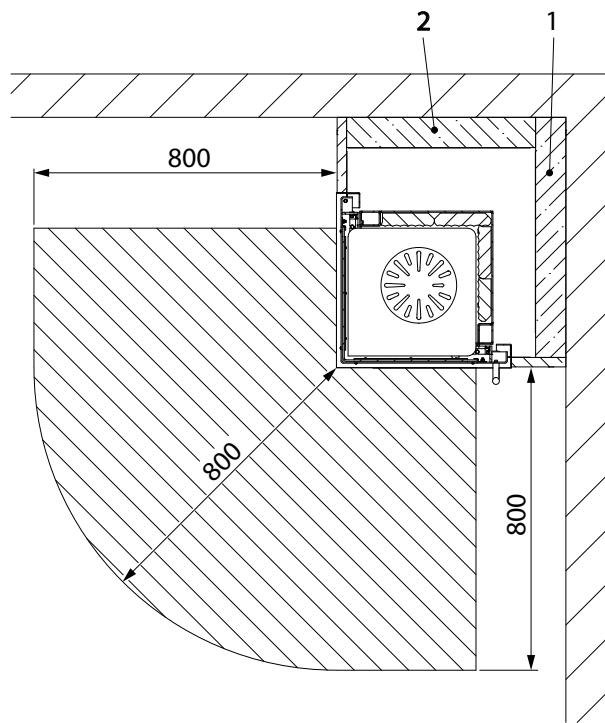
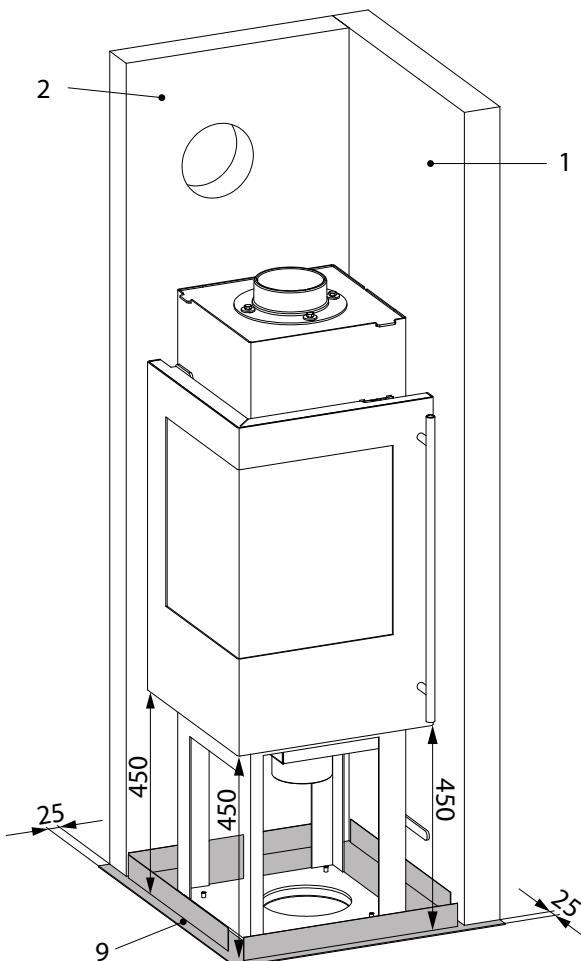

Fig.3
Fig.4
- Determine the installation location. The stove can be installed flush with the wall on 2 sides. There must be no objects made of combustible materials within a distance of 80 cm of the stove's radiation area, measured from the combustion chamber's inspection glass, nor may any be placed within this area subsequently see Fig.3).
- Position the bottom plate (9, Fig.4) at the installation location in such a way that the two 80mm thick insulation panels 1+2 face the mounting walls (see Fig.3).
- Align the stove such that the distance between the bottom plate and the bottom edge of the combustion chamber door is 450mm all around (see Fig.4).
- Set up insulation boards 1+2 and, if necessary, fix them in place on the mounting walls using a few adhesive joints. When installing the stove on 1 side with the mounting wall behind insulation board Pos.2, you can also screw the two insulation boards together using 3 chipboard screws Ø6x140 (17) (no pre-drilling and countersinking necessary). In any case, both boards must be glued together one below the other.